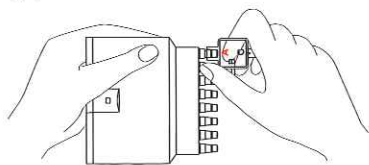

Fig. 6
- Push opening A of the tool (suitable for the pipette size at hand) from below over the nose cones in such a way as to ensure that the sharp edge in the opening of the tool is overlapping with the O-ring (see Fig. 6).